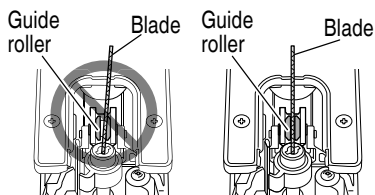

Fig. 3
- Confirm the blade located between the groove of guide roller. (Fig. 3)